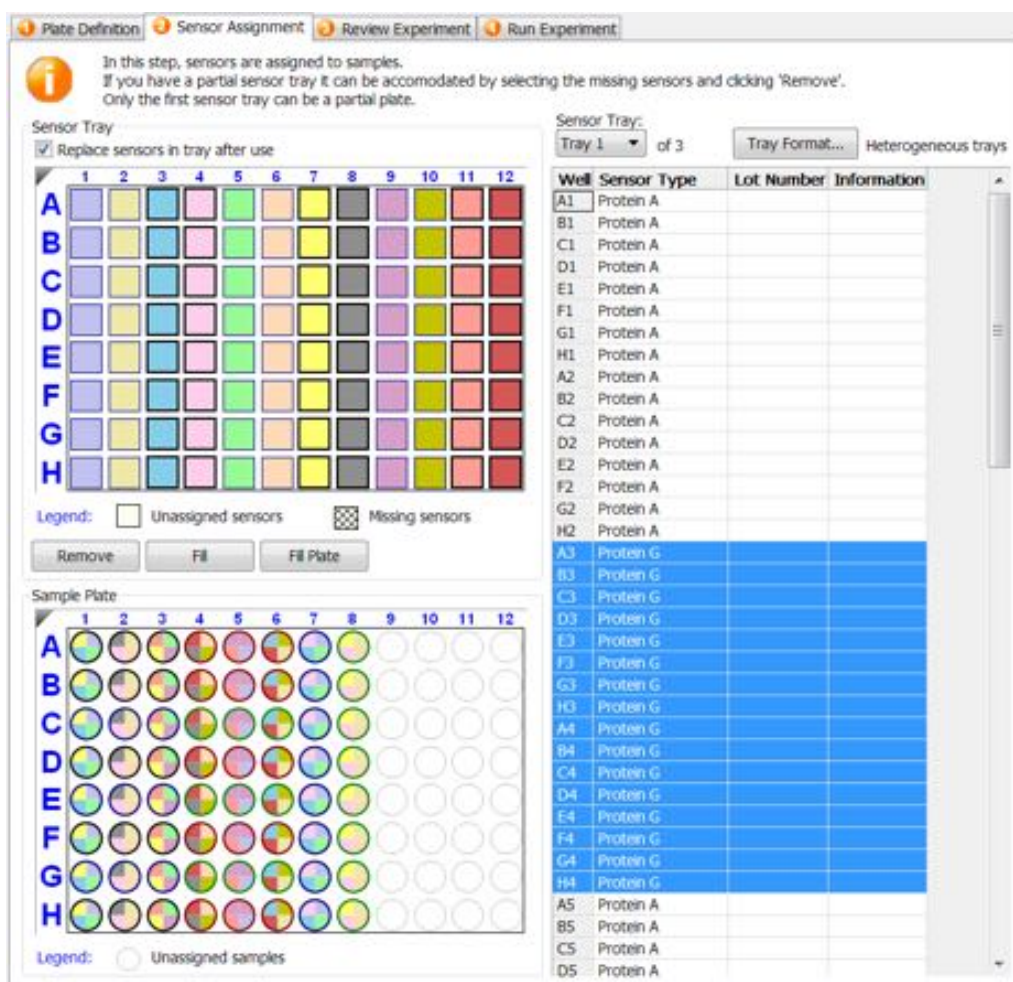

Figure 6-39: Biosensor Assignment using Heterogeneous Trays and Two Biosensor Types
4. Select the columns in the **Sensor Tray Map** that should contain the second biosensor type, right-click and select the second biosensor type (see Figure 6-39).
In the example shown in Figure 6-39, Protein A and Protein G biosensor types are used for a multiple analyte experiment using two replicates. Three heterogeneous biosensor trays will be needed for the experiment.